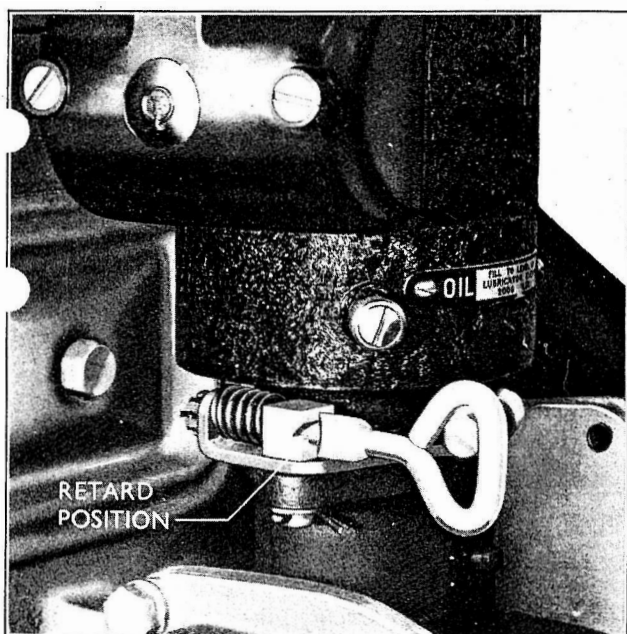

Fig. 264
- Pull out the spring-loaded manual advance and retard handle and turn it a half-turn (left- or right-hand) to the vertical position to retard the ignition. (See Figs. 264 and 265.)
Turn retard handle to retard position. (See Fig. 264.)